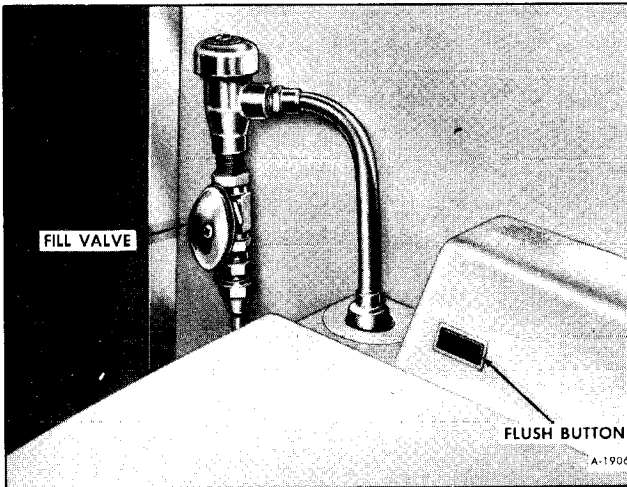

Figure 2—Toilet Water Fill Connection
2. Disconnect toilet water fill line shown in Figure 2, and disconnect the toilet wires.
4. Connect toilet water fill line and wires (figure 2).